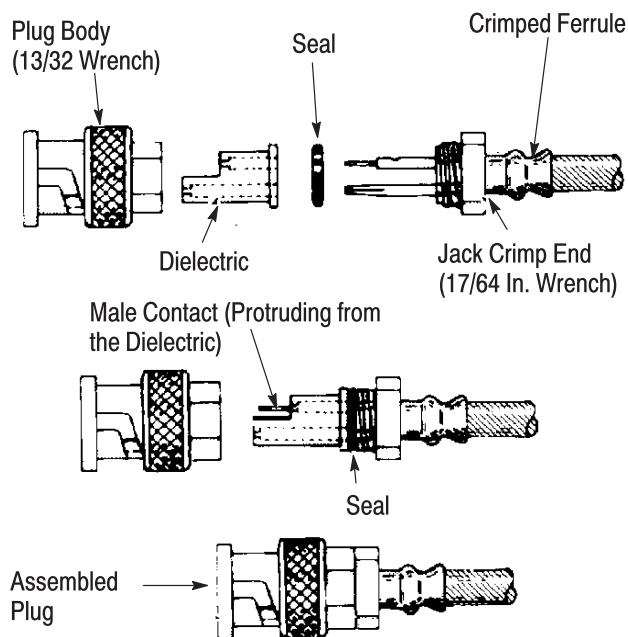

Figure 7
#### 4.1. BNC Plug Connector Assembly (Figure 7)
2. Insert the contacts into the dielectric, making sure that the male contact is allowed to protrude as shown in Figure 7.